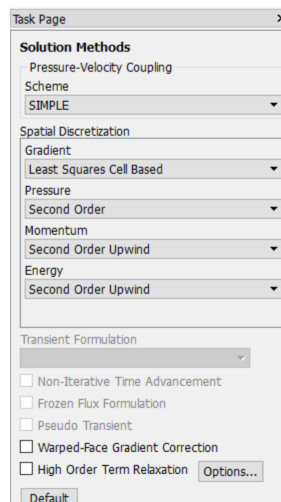

Figure 47: *Solution Methods* selection.
- This will open the *Solution Methods* task page: leave all the choices as their default values, like in figure 47 (for this case, with a perfect orthogonal, Cartesian mesh aligned with the main flow direction, also the simpler - and more economical - *Green-Gauss Cell Based* gradient reconstruction method could have been used without adversely affecting the accuracy of the calculations).